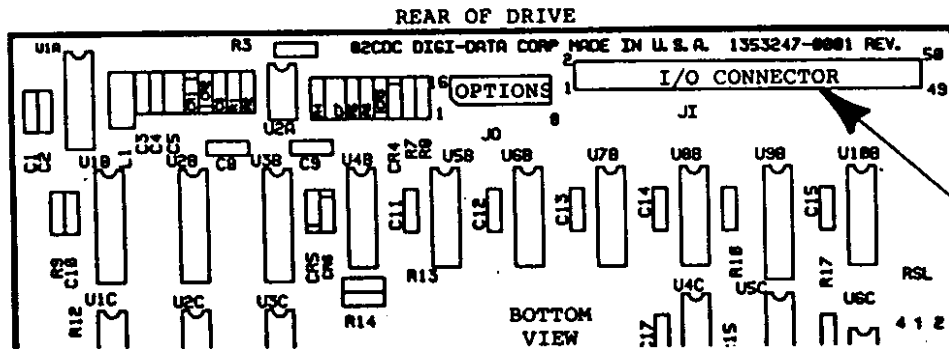

Figure 3.3, Controller I/O
- 1) Plug the cable from the controller onto the interface connector at the rear of the drive, on the Control (lowest) Board. See figure 3.3. Pin number one is indicated by a number on the board. The drive requires a 50-pin connector (3M #3425-7000 or equivalent).
- 3) If the drive is to be installed as one unit per controller, skip to paragraph (4).